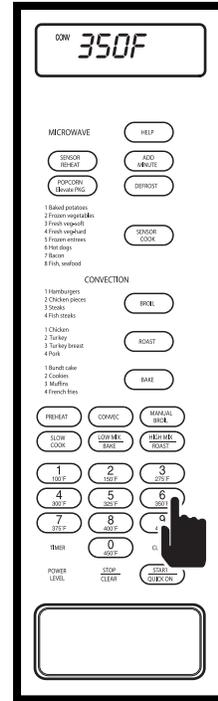

Figure 3-76.
2. Enter desired preheat temperature. Press the number 6 key, "350F - PRESS - START - OR - PRESS - CONVECT" will flash on display. (See Figure 3-76)